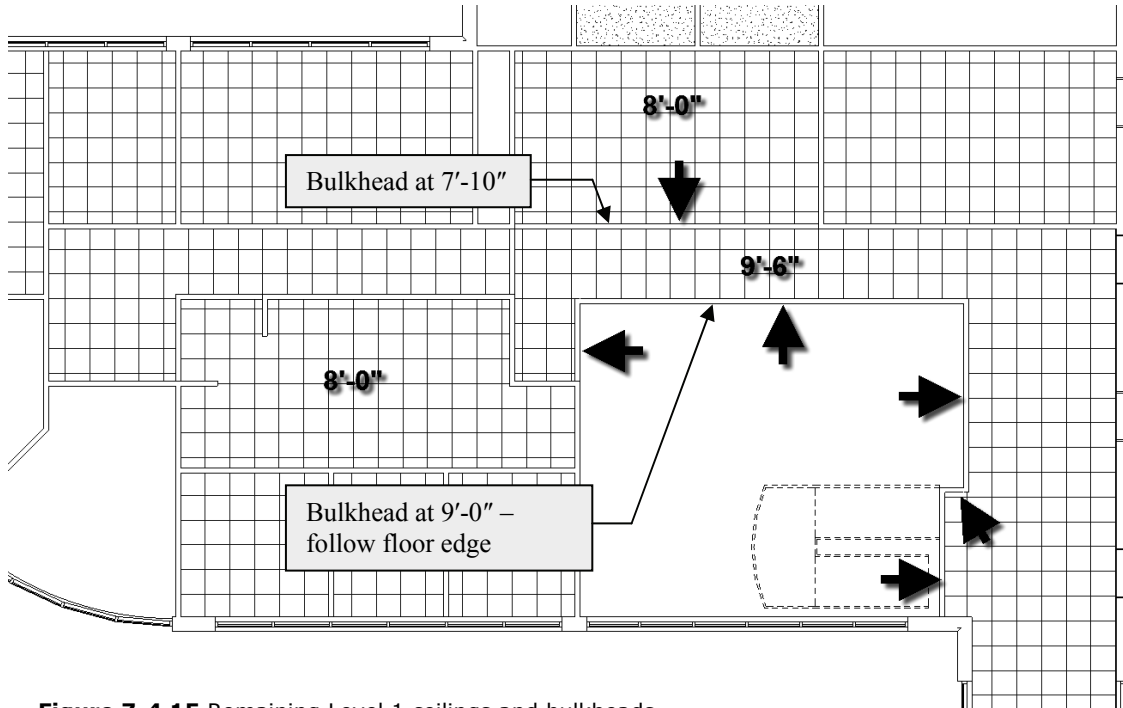

Figure 7-4.15 Remaining Level 1 ceilings and bulkheads
35. Place the remaining bulkheads and 2'x2' ACT ceilings per the image below; note the ceiling and bulkhead heights vary (Figure 7-4.15).